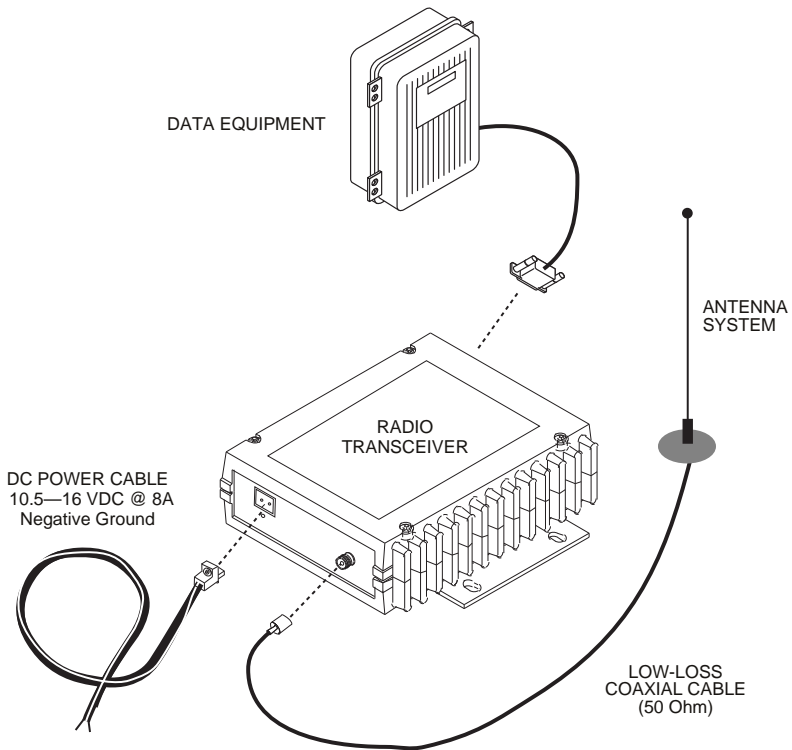

Figure 6. Typical Station Arrangement
Figure 6 shows a typical station arrangement. This is followed by step-by-step procedures for installing the transceiver and making front and rear panel connections.
Below are the basic steps for installing the transceiver. Refer to Figure 6 as necessary to make the cable connections.
4. **Connect primary power to the transceiver.** Power applied must be within 10.5–16 Vdc and capable of continuously providing at least 8 Amperes. A power connector with is provided with each unit (see **Figure 6**).